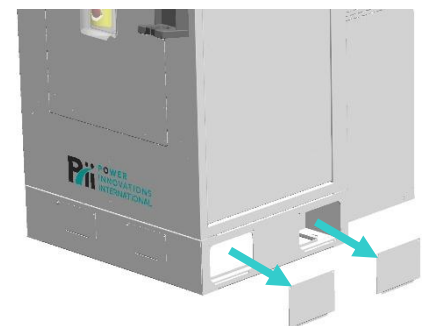

Figure 13 - Removing left and right access panels to access 4 hex bolts and washers securing charger to pallet
- a. Using a T27 Torx driver, remove lower access panels on the left and right sides to reach the 4 inside corners of the charger (Figure 13).